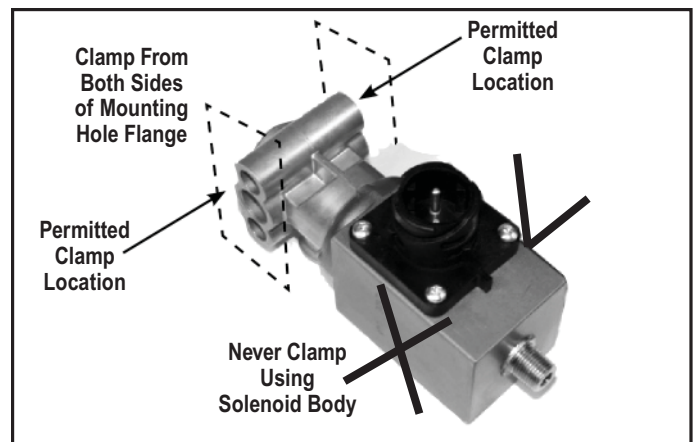

FIGURE 3 - VISE CLAMP LOCATION FOR BENCH INSTALLATION OF FITTINGS
- (b) bench installation of the fittings, using **only** the clamp location shown in Figure 3, before installing the valve on the vehicle.
Select one of the two fitting installation methods, either install the valve onto the vehicle first, or clamp, as shown in Figure 3, using a bench vise for steps 2 and 3.